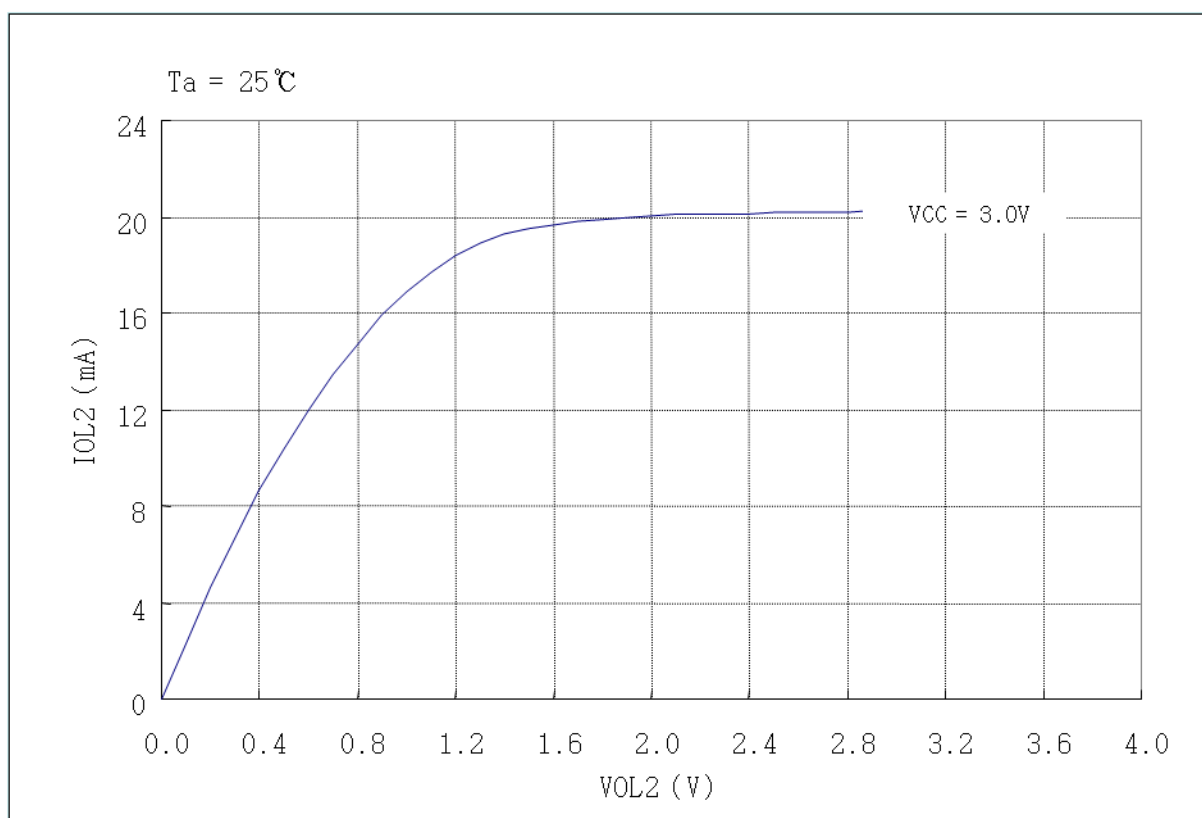

Fig 7-1. I_{OL2} vs. V_{OL2} Graph. (D, R Port)
- *1 Refer to Fig.7-1 < I_{OL2} vs. V_{OL2} Graph >